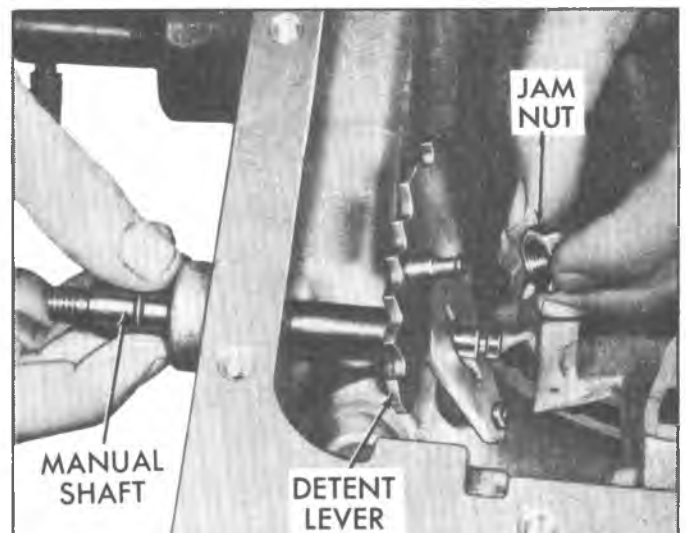

Fig. 135T--Installing Detent Lever and Jam Nut to Manual Shaft
- e. Install detent jam nut on manual shaft, and tighten to 18 ft. lbs. (fig. 135T).